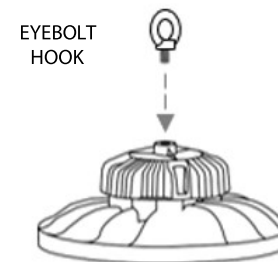

Figure 1
1. Thread the enclosed eyebolt hook into the top of the luminaire housing, and tighten securely. Tighten the set screw to prevent the eyebolt from loosening. (See Figure 1)